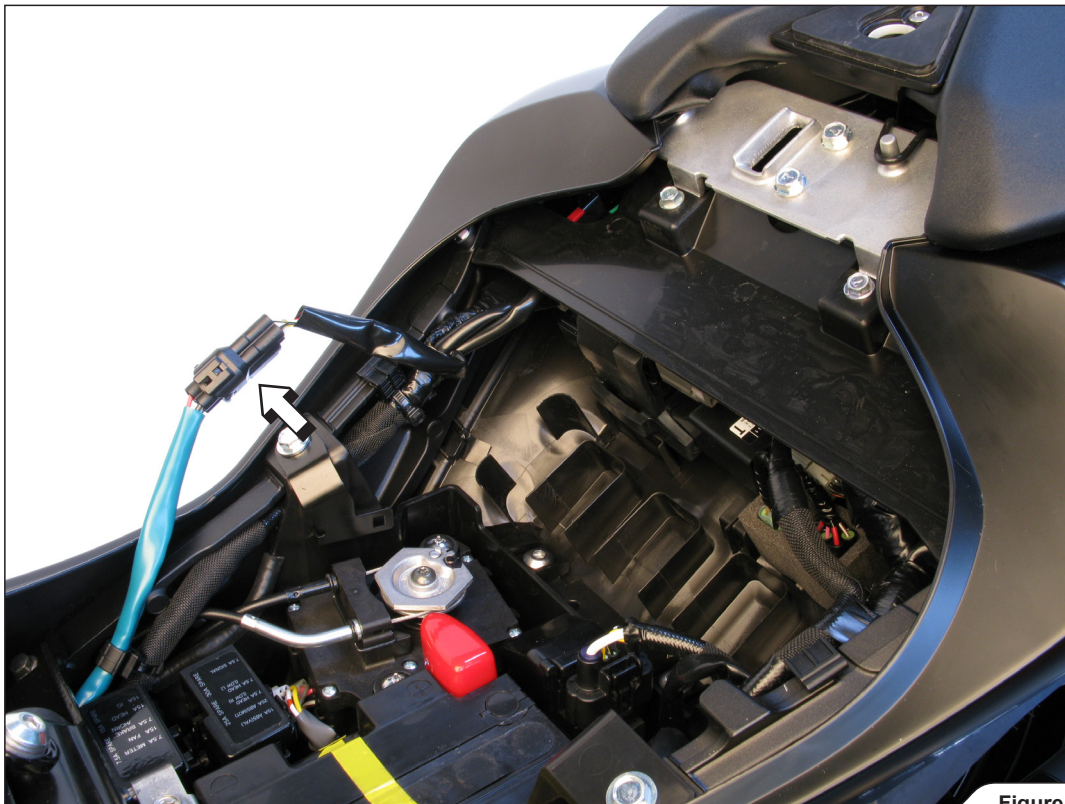

Figure 1
2. **For Z1000 model only:** remove the rider's seat and undo the marked electrical connector off it's bracket (**Figure 1**).